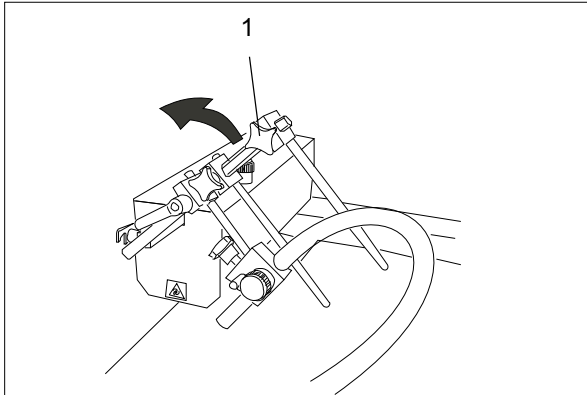

Fig. 14 Front side stop
1. Swing the front side stop (Fig. 14/1) to the left.